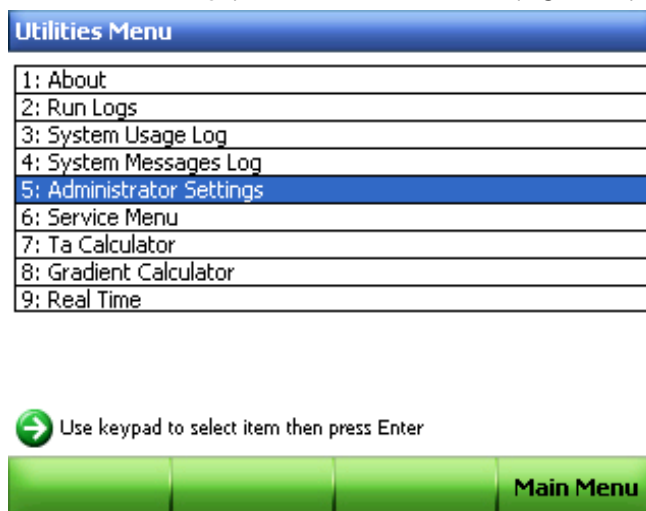

Figure 23. The Utilities Menu.
3. Select **5 (Administrator Settings)** on the **Utilities Menu** (Figure 23).